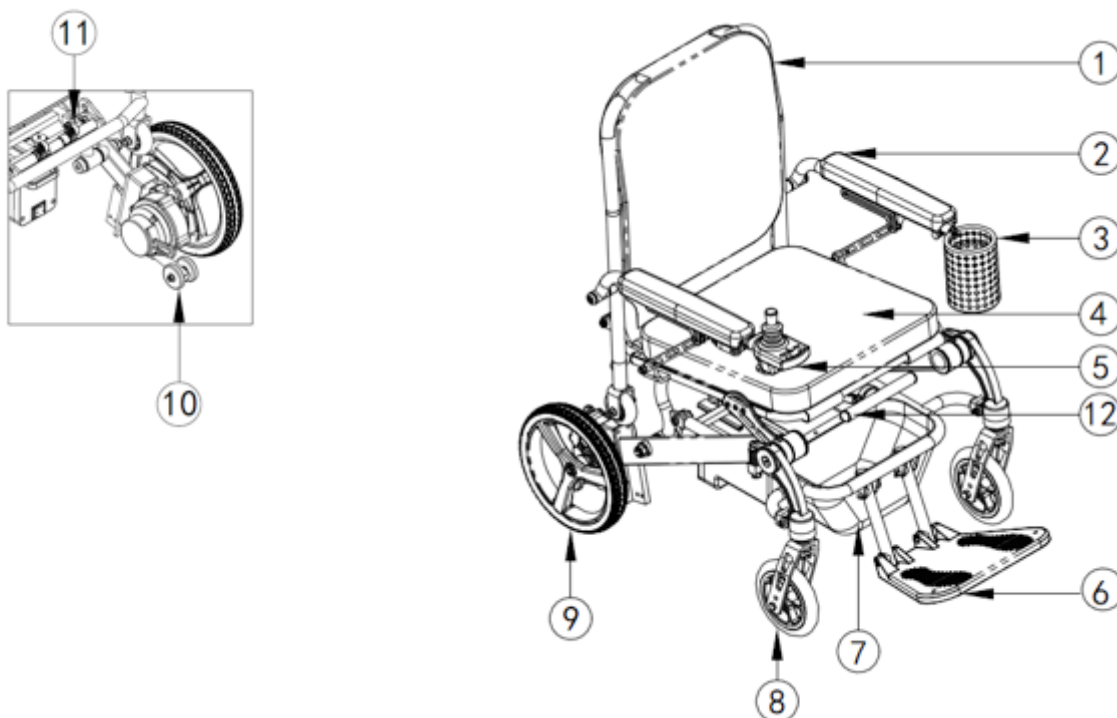

Figure 1. The Dashi
The Dashi is a power chair that you can easily fold for transportation or storage. The battery box slides into the rear of the power base. **See figures 1 and 2** for power chair components.
2. Standing at the rear of the chair, locate the locking mechanism. **See figure 1.**
1. Standing at the rear of the chair, locate the locking mechanism. **See figure 1.**